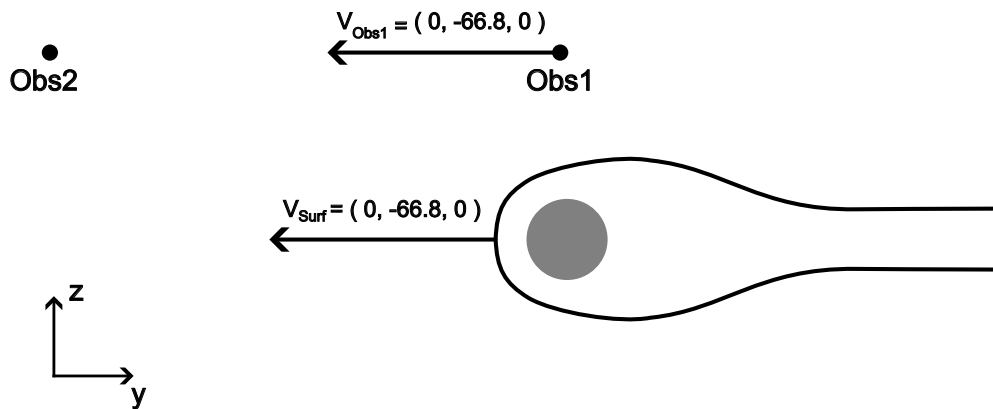

Fig. 1.3: FWH surface and observer motions - FWH (quiescent medium) frame of reference
When the FWH equations are derived, we make an important assumption - that of a 'quiescent medium' (i.e. still air, with a free-stream velocity of zero). Clearly, with a freestream velocity of  $(0, 66.8, 0)$ , the flow in our CFD simulation does not satisfy this condition. In order to use the FWH solver, we therefore have to perform a co-ordinate transformation, as in Fig. 1.3. In the `run_fwh` utility, this co-ordinate transformation is performed automatically, whereas in the *fwh python module* we set up the surface and observer motions through the FWH quiescent medium manually.
The centre of the cylinder in the CFD mesh is at (0.25,0,0), and we want *Obs1* to always be (0,0,20) metres away from the cylinder centre during the FWH simulation. Since the cylinder ‘travels with’ the FWH surface (see Fig. 1.3), we can therefore say that the motion of the cylinder centre in the FWH co-ordinate frame is  $\mathbf{x}(t) = ((0.25, 0, 0) + (0, 0, 20)) + \mathbf{V}_{surf} t$ . We therefore set the motion of *Obs1* to be  $\mathbf{x}(t) = (0.25, 0, 20) + \mathbf{V}_{surf} t$ . We set *Obs2* to be stationary in the FWH reference frame, and to be coincident with *Obs1* at  $t=2.5$ . We save the outputs to a json file called `FWH_data.json`.
*Obs1* moves through the FWH medium at a constant displacement from the cylinder centre (see Fig. 1.3). We see from our post-processing that the noise experienced by *Obs1* is dominated by a constant 10 Hz component, which is the shedding frequency of the cylinder. Various harmonics of the 10 Hz signal are present in the power spectral density plot for *Obs1*.